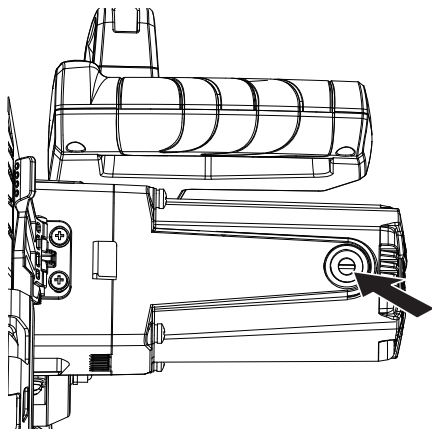

Figure 32
3. CHANGING CARBON BRUSHES (NOT SUPPLIED) (SEE FIG. 32)